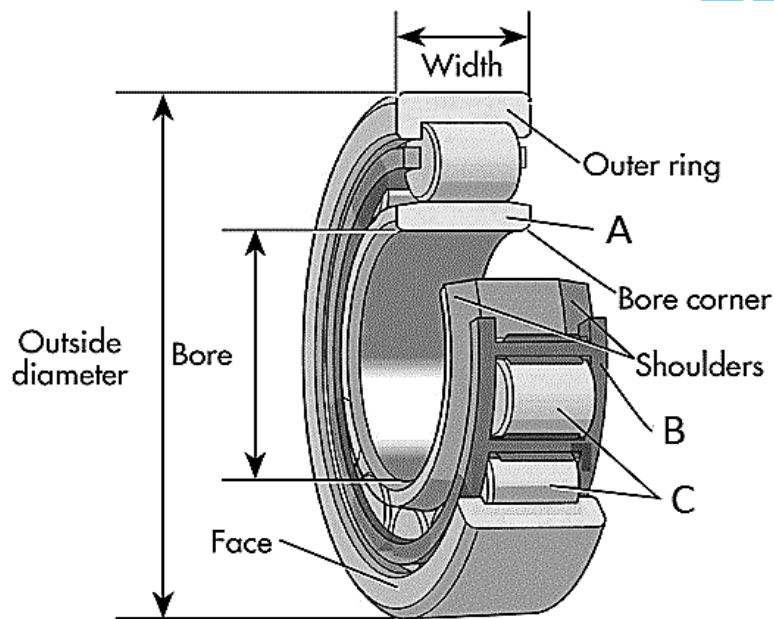

FIGURE 1
3.3 Refer to FIGURE 1 (below) of a single-row radial cylindrical roller bearing and label the different parts (A–C), as indicated. Write only the answers next to the letter (A–C) in the ANSWER BOOK.